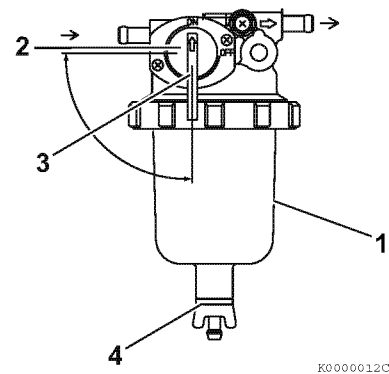

Figure 5
1. Position an approved container under the fuel filter/water separator (1, **Figure 5**) to collect the contaminants.
2. Close (2, **Figure 5**) the fuel cock (3, **Figure 5**).
3. Loosen the drain cock (4, **Figure 5**) at the bottom of the fuel filter/water separator. Drain any water collected inside.
5. Open the fuel cock (3, **Figure 5**).